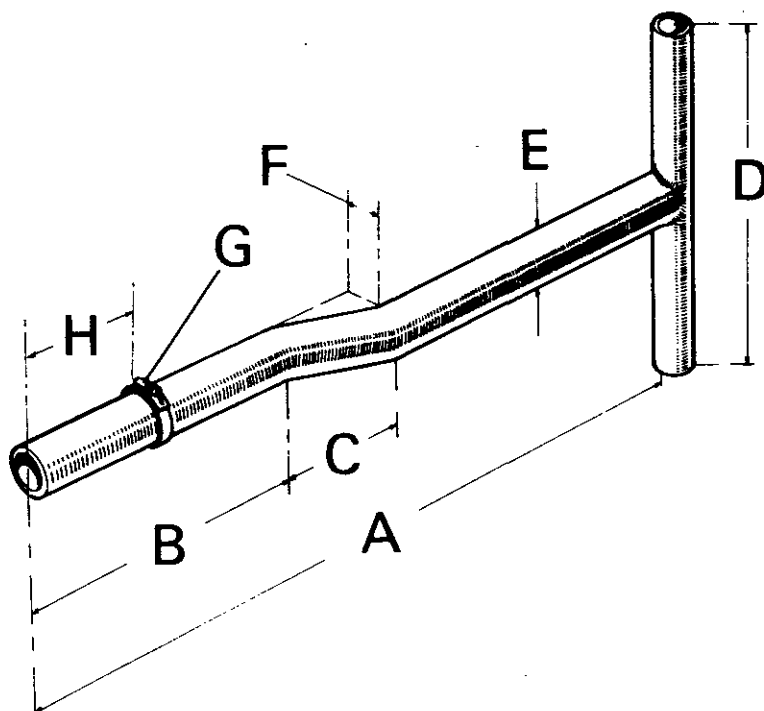

Figure 3. TOOL FOR REPLACING DIFFERENTIAL LOCK SLEEVE
6. Replace diff-lock spring in differential end plate. Place sleeve on tool, shouldered end of sleeve towards handle end of tool, and insert tool into axle case. Push tool inwards until sleeve shoulder is behind inner web of casting. When placing sleeve in this position ensure that protruding end of tool is not entered in the spring or the sleeve will be tilted and make subsequent engagement of pedal fork difficult. Manipulate the pedal fork until it is in line with sleeve groove then turn tool to move sleeve sideways and engage fork in sleeve groove. At the same time the protruding end of tool will automatically locate in the spring and act as a guide to align sleeve end plate with end plate splines. Push tool towards differential and manipulate it until splines on sleeve engage in end plate splines then wire diff-lock down to hold the sleeve in the engaged position and allow tool to be withdrawn without the sleeve becoming displaced. (Fig. 3).